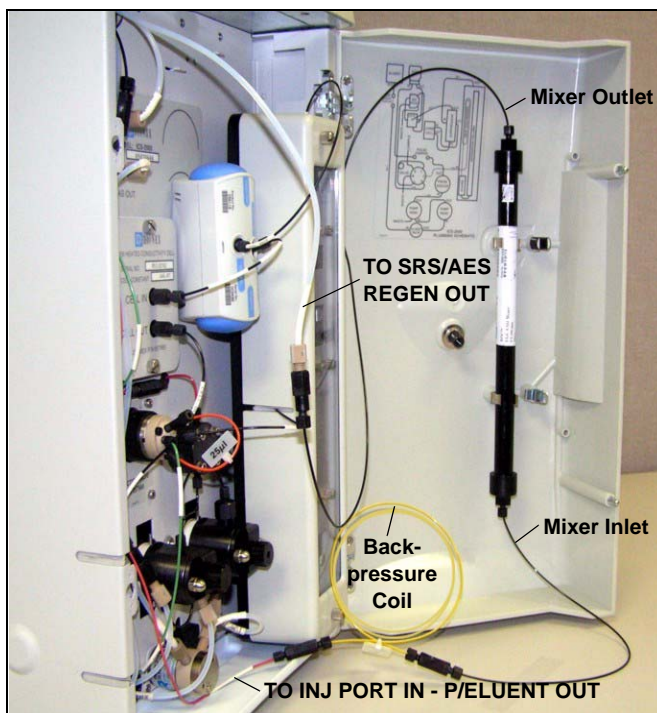

Figure 5-67. Mixer Connected Directly to Eluent Generator Outlet for Initial Filling
2. Use the 10-32 to 10-32 coupler to connect one end of the backpressure coil to the **TO INJ VALVE IN - P/ELUENT OUT** line (see Figure 5-67).